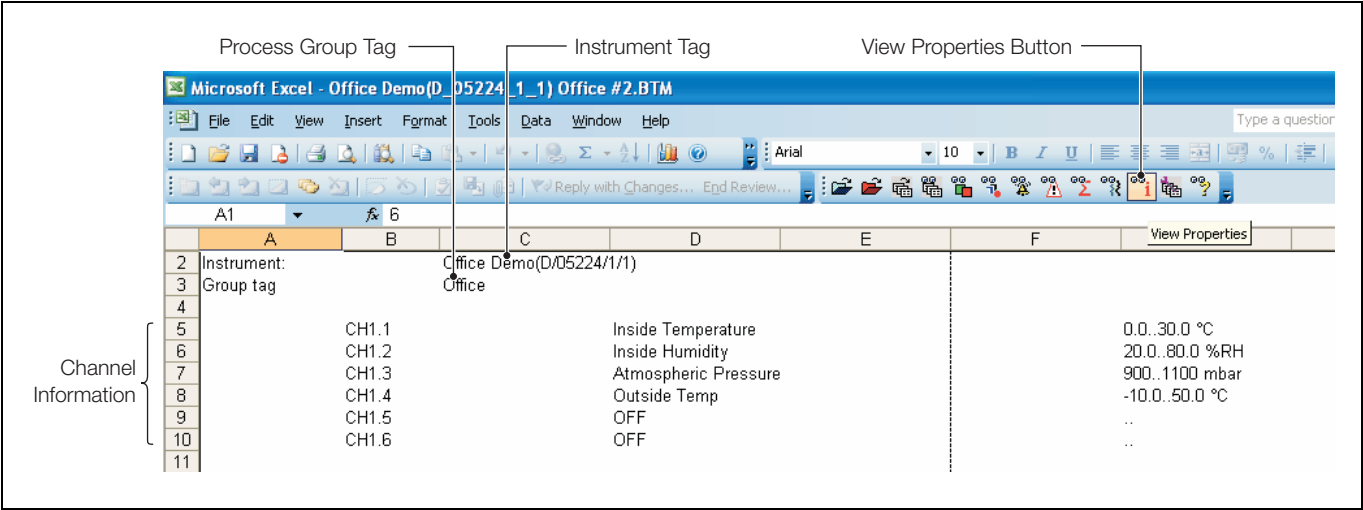

Fig. 3.2 View Properties Display
3.6 View Properties – Fig. 3.2